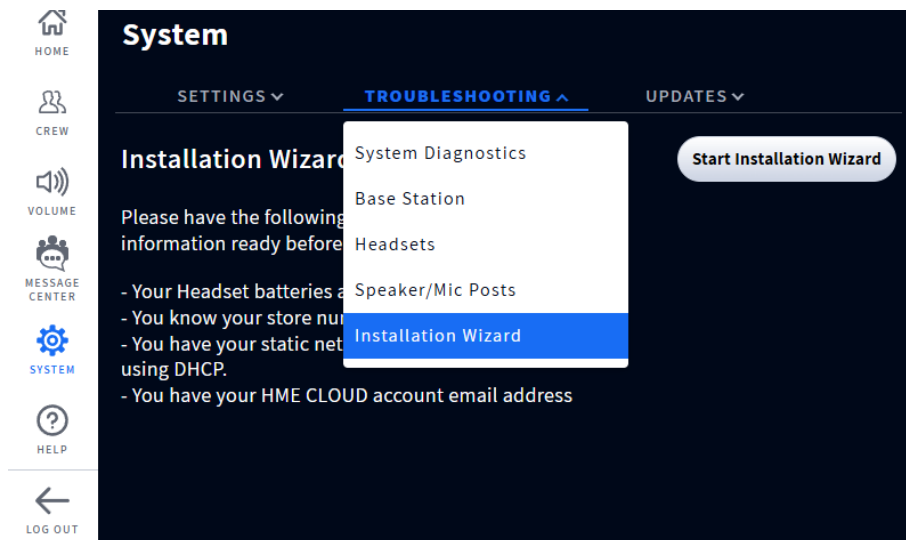

Fig. 3.7
**Note:** If you accidentally exit the Installation Wizard and need to return to it. Log in to the system, go to the SYSTEM page, and under the TROUBLESHOOTING tab select “Installation Wizard” from the drop-down list. Tap the “Start Installation Wizard” button to begin (see Fig. 3.7).